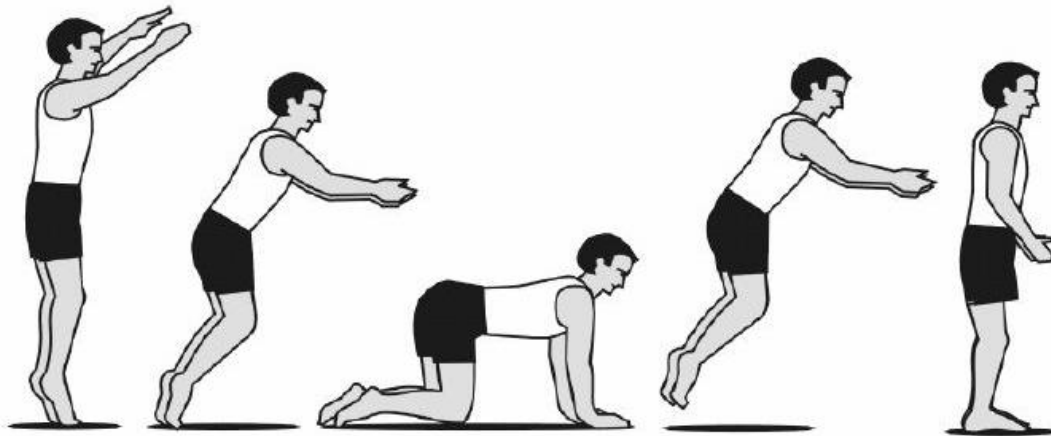

Figure 6 Hands and Knees Drop
- (c) From the standing position, prime the bed several times. Lift upward with your hips, reach forward with our hands, and land on all fours. Look slightly in front of your hands on landing. Push to rebound to your feet (see Figure 6).